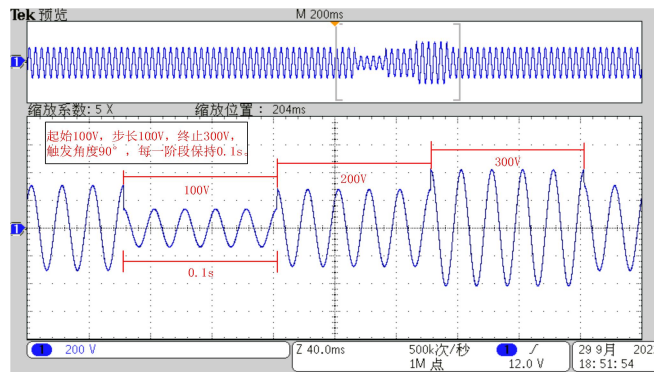

Figure 81 Step programming waveform example diagram 1
- 4) Click 'Trigger' to display the programmed waveform on the oscilloscope (only the $\Phi 1$ waveform is shown here); see Figure 81.